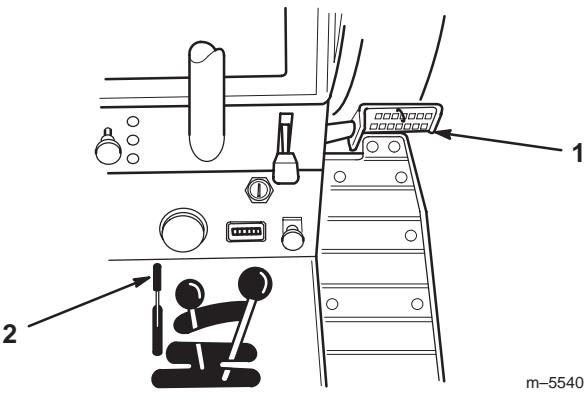

Figure 7
1. Push the brake pedal (Fig. 7) down and hold it in the depressed position.
2. Move the parking brake lever (Fig. 7) back and gradually take your foot off the brake pedal. The brake pedal should stay in the depressed (locked) position.
1. Push down on the brake pedal (Fig. 7). The parking brake lever should release.